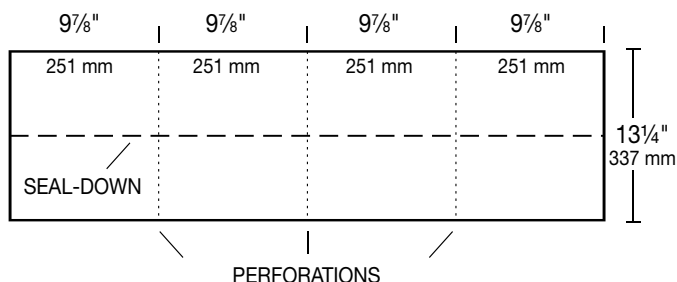
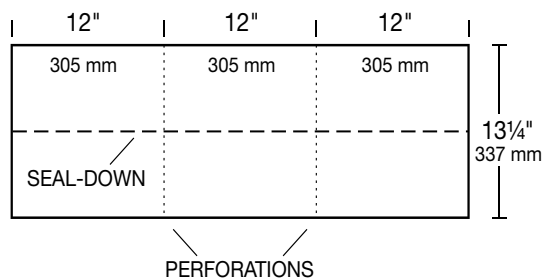

Figure 27 - 10" RidgeFlex® Hip and Ridge Shingle
Figure 28 - 12" RidgeFlex® Hip and Ridge Shingle
Prepare for application by separating each hip and ridge shingle at the perforations: The 10" RidgeFlex® shingle produces four (4) individual hip and ridge strips (see Figure 27), and the 12" RidgeFlex® shingle produces three (3) (see Figure 28). Note the presence of their seal-down strips.